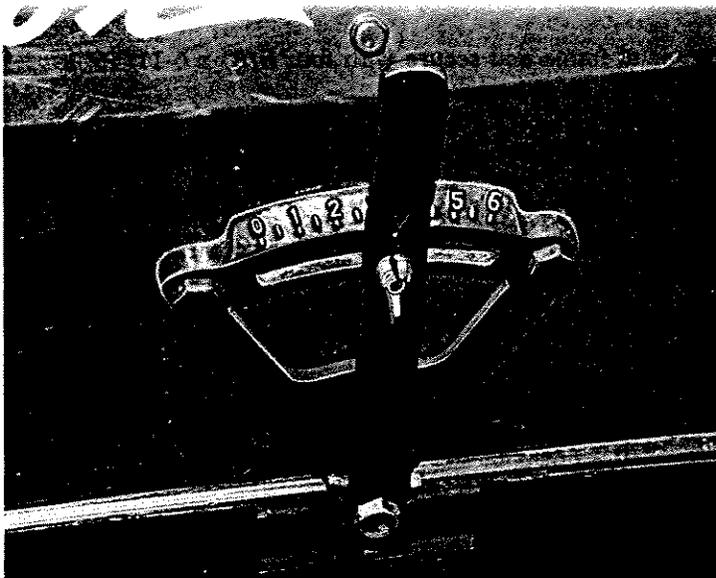

Figure 15
5. Position shift handles on rear of boxes so the pin in the bottom of each handle engages the slotted hole in the slide. Attach handles to shift plates using 1/2" x 1" pivot bolts and flat washers. Tighten bolts just so handles can move easily and then lock bolts by installing set screws into tapped holes in cast iron shift plates. See Figure 15 on page 15.